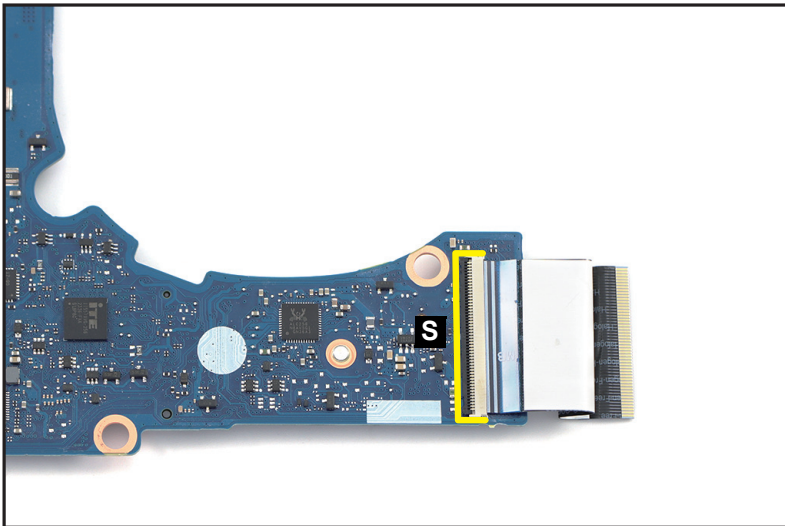

Figure 1-51. Mainboard Removal
17. Disconnect the other end of the LTE board FFC from the mainboard connector (S) (Figure 1-51). Remove the FFC.